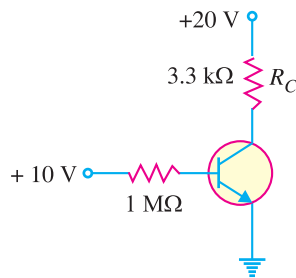

Fig. 8.70
8. Draw the d.c. load line for Fig. 8.70.
9. If the collector resistance R_C in Fig. 8.70 is reduced to $1\text{ k}\Omega$, what happens to the d.c. load line? [The end points of d.c. load line are now **20 mA** and **20 V**]